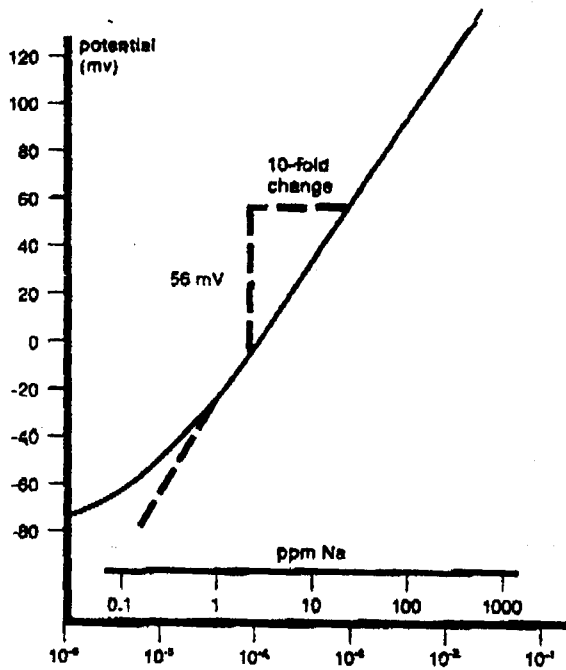

Figure 3-1 Typical Sodium Electrode Calibration Curve
5. Using the semi-logarithmic graph paper, plot the mV reading (linear axis) against the concentration (log axis). A typical calibration curve can be found in Figure 3-1.
8. On semi-logarithmic graph-paper, plot the millivolt reading (linear axis) against the concentration (log axis) as in Figure 3-1.
Plotting the electrode mV potential against the sodium concentration on semi-logarithmic paper results in a straight line with a slope of about 56 mV per decade. Refer to Figure 3-1.